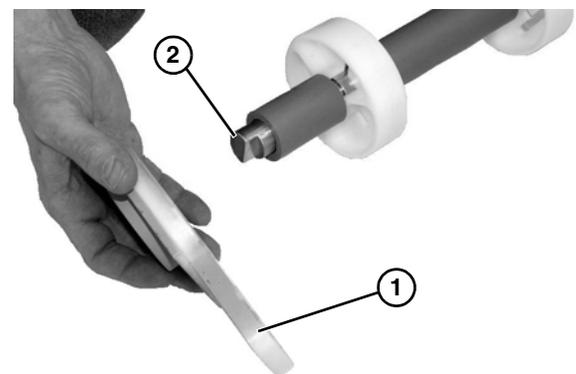

Figure 36
- Slide off idler head plate (**Figure 36, item 1**) from shaft (**Figure 36, item 2**).